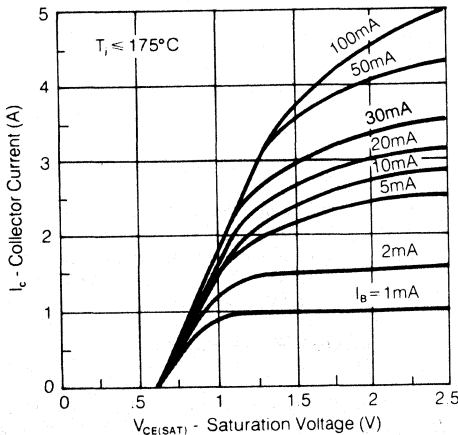
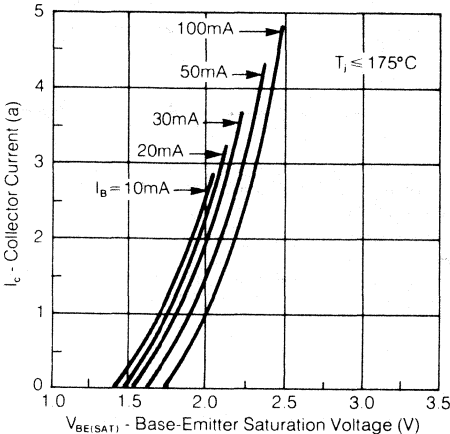

Figure 3. U2TA506 Series. Maximum Saturation Voltage vs. Collector Current
Figure 6. U2TA506 Series Maximum Base to Emitter Saturation Voltage vs. Collector Current
Where I_{pk} is the peak collector current of a square pulse of current equivalent to the applied current pulse, $V_{CE(SAT)}$ is the transistor or Darlington saturation voltage at I_{pk} , $V_{BE(SAT)}$ is the base-to-emitter saturation voltage and I_B is the base current. Figures 3, 4, and 5 are plots of $V_{CE(SAT)}$ for the U2TA506, UPTA510 and UPTB520 series Darlington and transistors. Figures 6 and 7 are plots of the $V_{BE(SAT)}$. These curves can be used in determining P_{pk} .
$$P_{pk} = (V_{CE(SAT)})(I_{pk}) + (V_{BE(SAT)})(I_B) \dots (5) \\ = (1.5\text{V})(3\text{A}) + (2.15\text{V})(30\text{mA}) \\ \text{(from Figures 3 and 6)} \\ = 4.56\text{W}$$